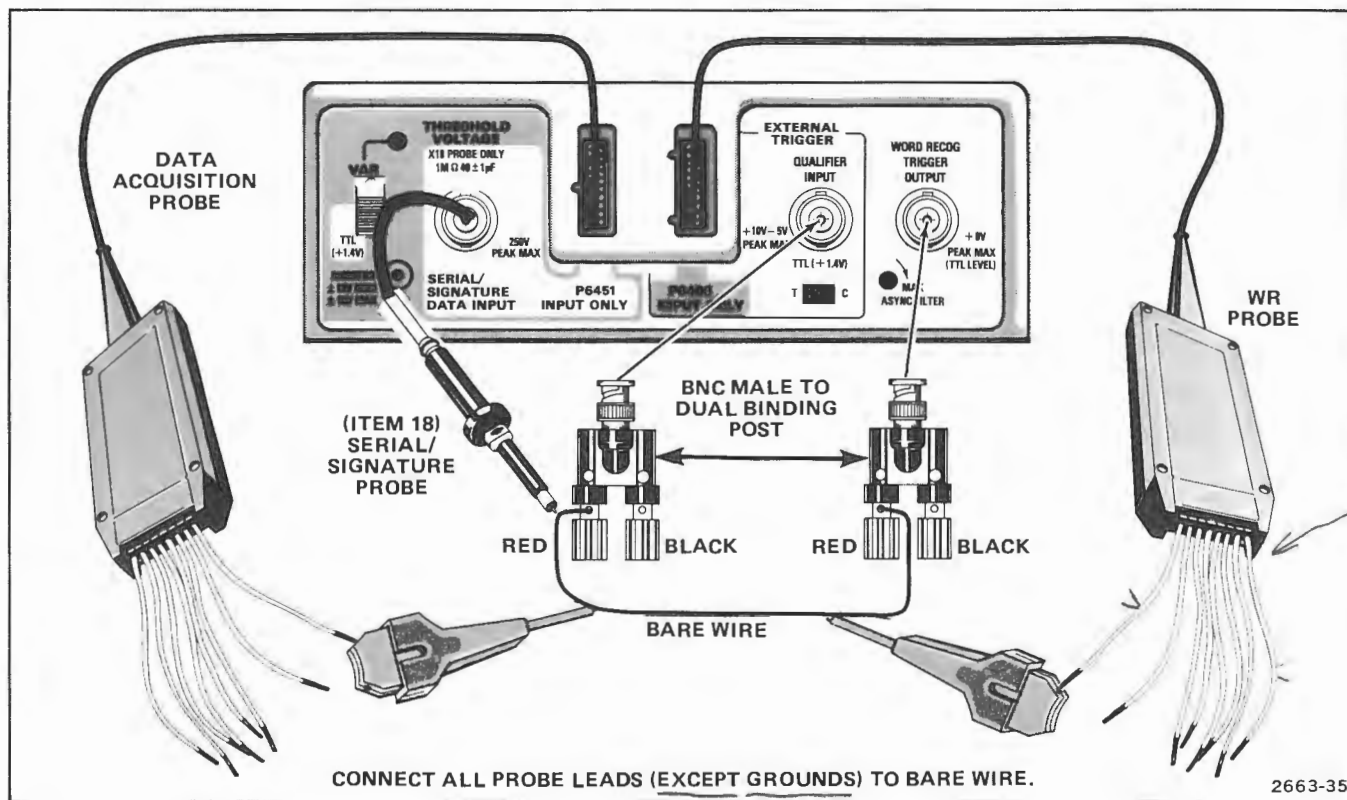

Figure 4-2. Diagnostic test setup.
- a. Connect test setup as shown in Figure 4-2.